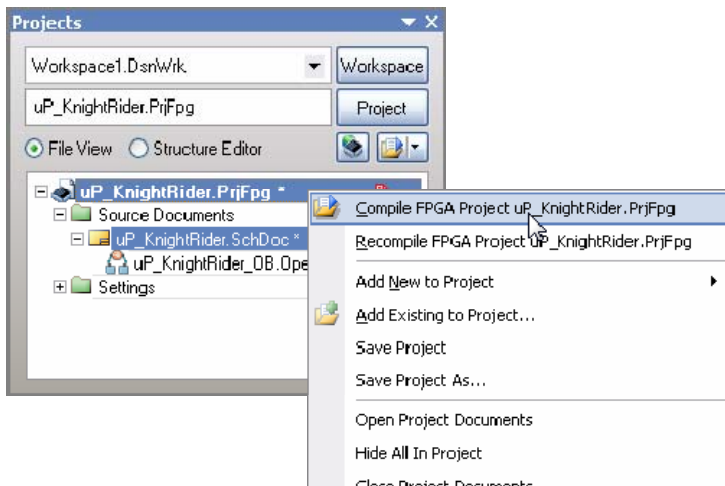

Figure 7. When the project is compiled the OpenBus document will become a child document of the schematic.
23. Right-click on the uP_KnightRider.PrjFpg project file in the Projects panel, and select **Compile** from the menu. When the project is compiled the OpenBus document will move to become a child of the schematic document, as shown in Figure 7. **Note:** You will receive compiler errors in the Messages panel, because we have not completed the wiring yet – you can ignore these and close the Messages panel for now.